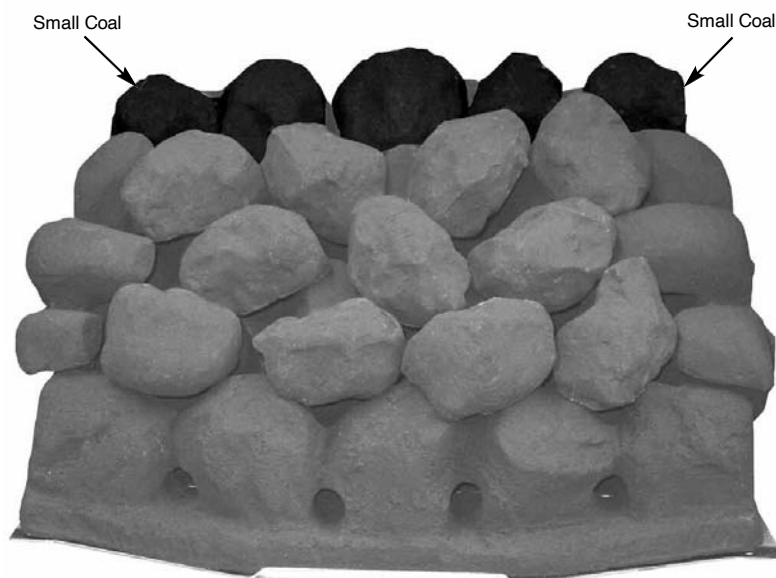

Fig. 25
8. Place the next three coals in the middle, on the back edge of the coals previously laid ensuring even gaps all round. Finally place the two small coals, one in each top corner. Make any adjustments necessary to achieve even gaps as this will help in giving a well balanced flame picture and an even glow (Fig. 25).